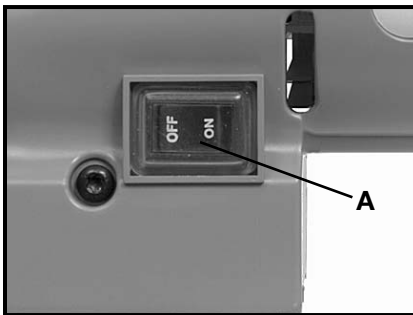

Fig. 15
The tool is equipped with a “rocker” type switch (A) Fig. 15 labeled “ON” and “OFF”.